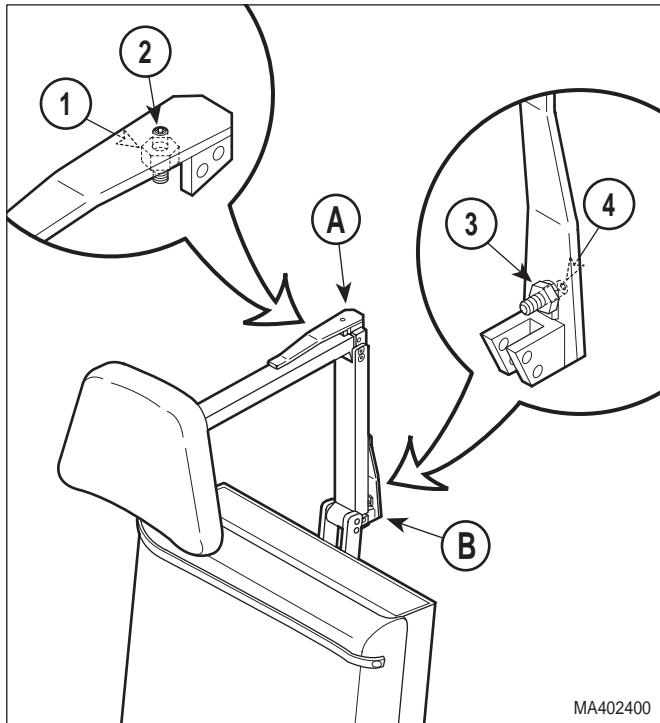

Figure 4-31. Headrest Handles Handle Stops Adjustment
- (1) Loosen nut (1, Figure 4-31).